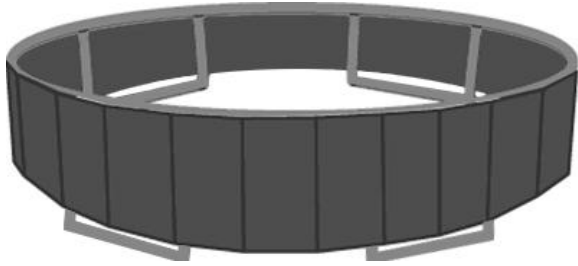

Figure 3
4. Raise and set the wall of panels flush with the center of the ring of the trampoline frame. This requires multiple people to keep the kit level and together while lifting all sides at once to set the screws. (See figure 3)